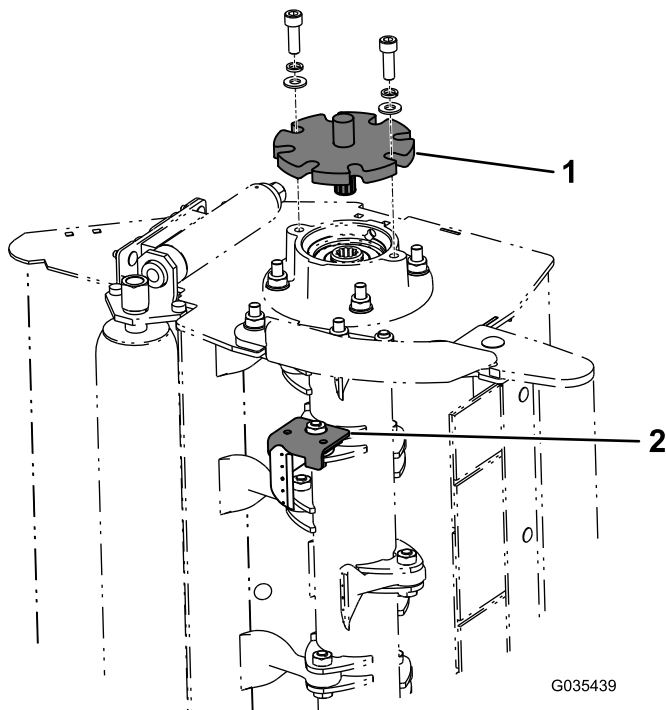

Figure 1
6. Lock the rotor into place by fitting the rotor lock with the existing fasteners (Figure 1).
7. Attach the blade retainer bracket on top of the lug and the blade (Figure 1).